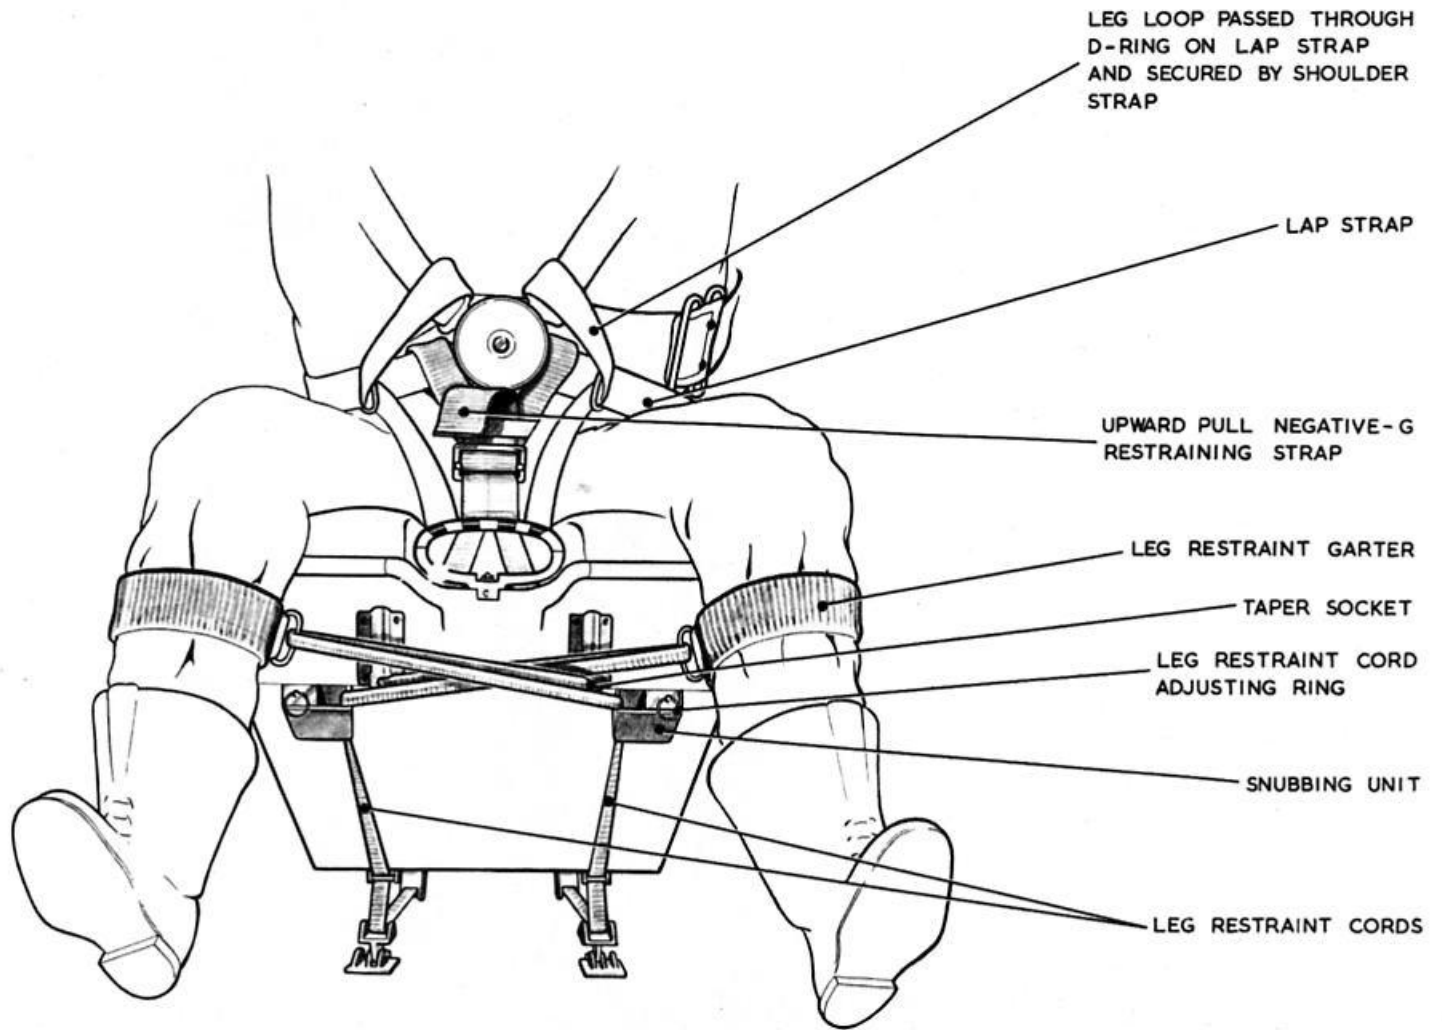

Fig. 7. Arrangement of leg restraint cords and harness : upward pull negative-G restraining strap fitted
17. The procedure for strapping-in is as follows; refer to fig. 7 to 10 for detail as necessary:-